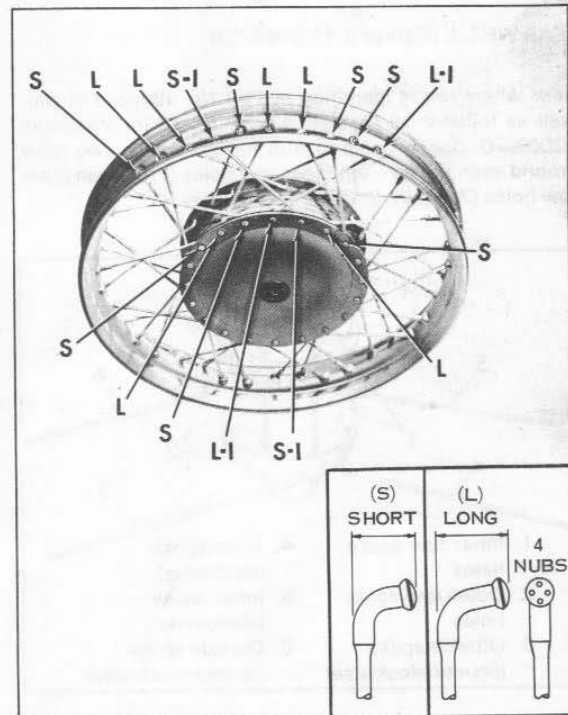

Figure 2-15. Front Wheel Lacing (1972 and Earlier)
FRONT WHEEL (Figures 2-15, 2-16)
Note that there are two types of spokes: long and short. They are identified by the shape of the bent end as shown in Figure 2-15. One long and one short spoke are used in each pair. The long spoke (L) of each pair on rim crosses over to opposite side of hub while the short spoke (S) of each pair on rim connects to same side of hub. Spoke arrangement is shown in Figure 2-15 or 2-16.
9. Cross long spokes clockwise underneath short spokes and insert into right (clockwise hole) of each pair of holes that angles in same direction as spoke on opposite side of rim well. See L-1 in Figure 2-15 or 2-16.
10. Cross short spokes clockwise above long spokes and insert into right (counterclockwise hole) of each pair on near side of rim well that angles in same direction as spoke. See S-1 in Figure 2-15 or 2-16.